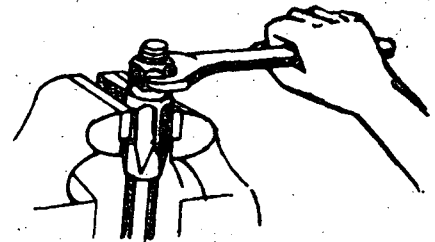

Fig. 8
- c) Screw the nipple into the socket of the swivel clockwise (Fig. 8).